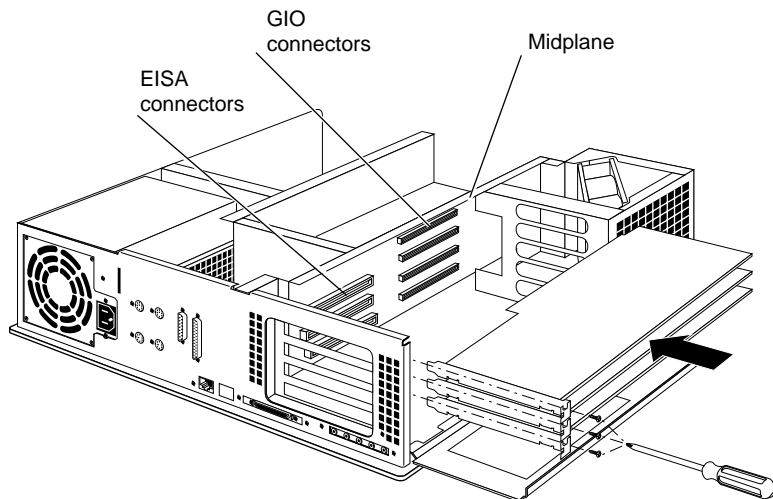

Figure 3-14 Replacing the Graphics Board Set
- Align the metal extensions on the left of the board set with the top three slots on the chassis. At the same time align the right edge of the board set with the metal grooves on the right of the chassis, as shown in Figure 3-14.